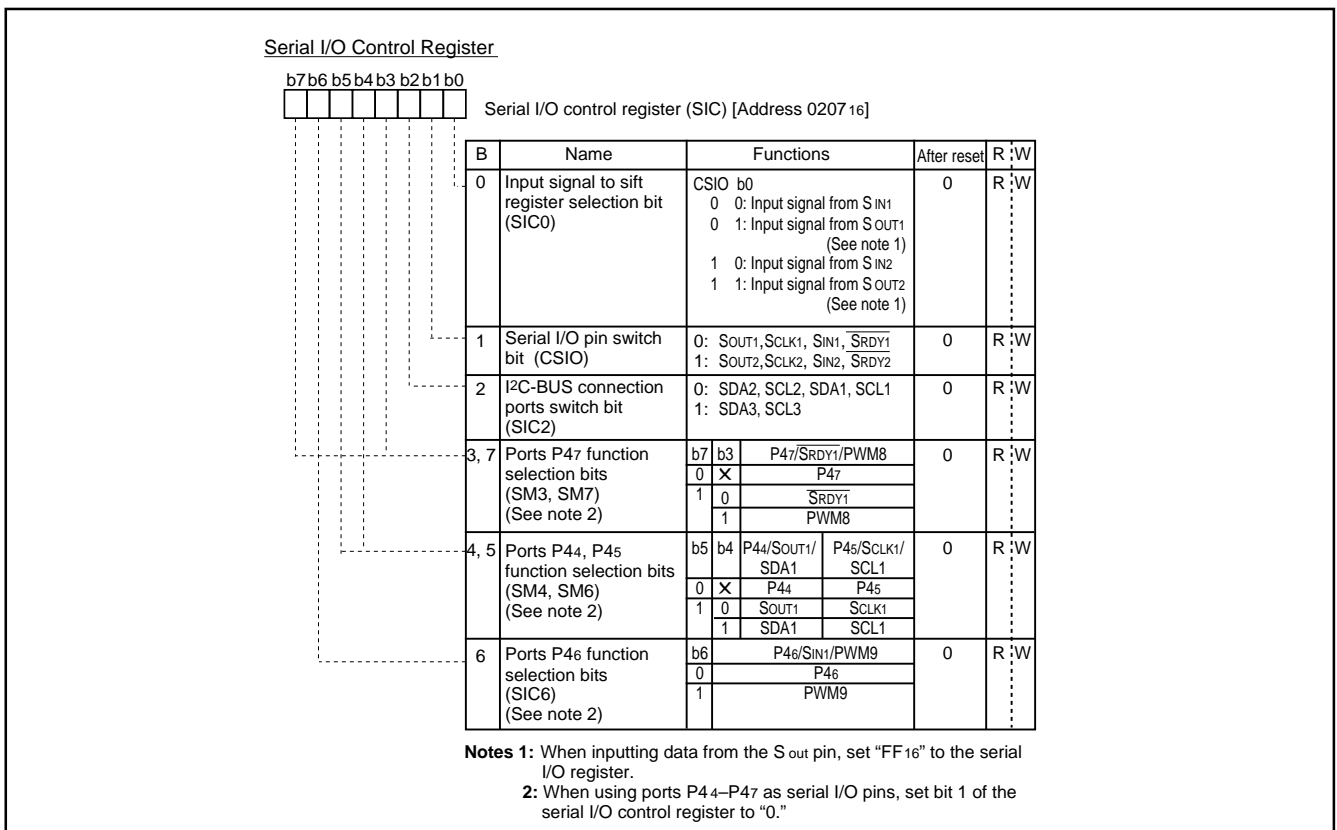

Fig. 21. Serial I/O Control Register
**2 :** CIIC is bit 2 of the serial I/O control register (address 020716) (refer to Figure 21).